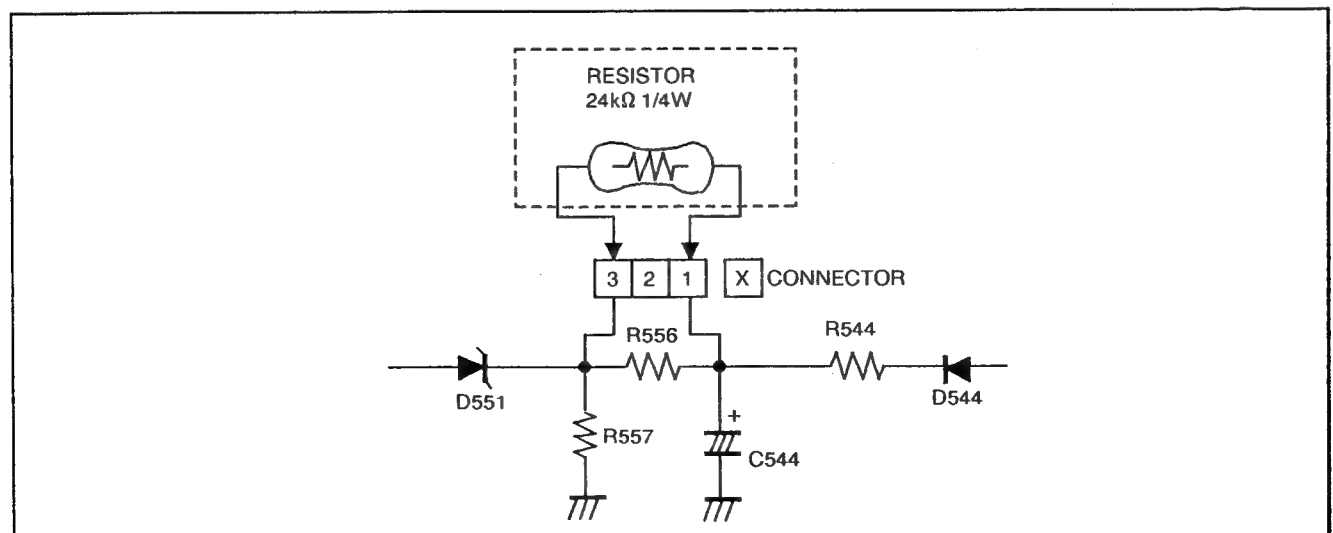

Fig. 2
- (1) Turn the POWER SW ON.
- (2) As shown in Fig. 2, set the resistor (between **X** connector **1** & **3**).
- (3) Make sure that the screen picture disappears.
- (4) Temporarily unplug the power cord.
- (5) Remove the resistor(between **X** connector **1** & **3**).
- (6) Again plug the power cord, make sure that the normal picture is displayed on the screen.